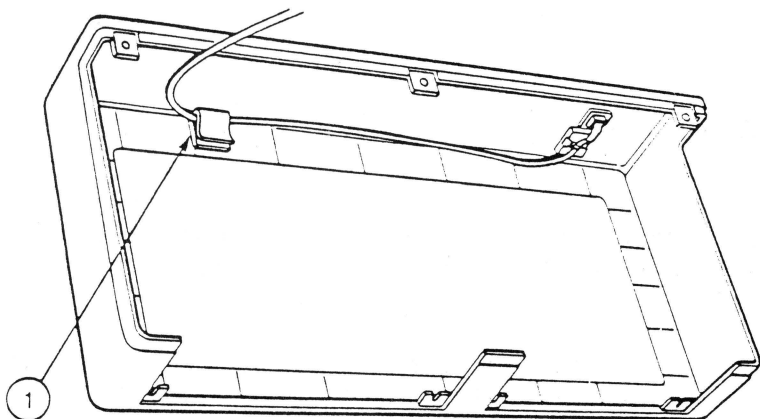
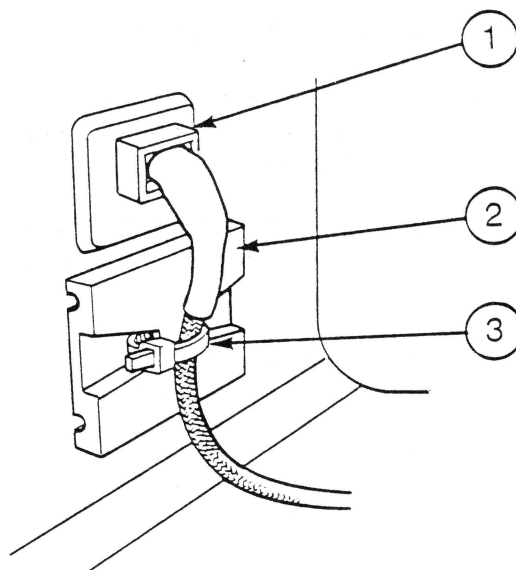

FIGURE 5
FIGURE 6
2. With the customer's cover laying flat, as in Figure 5, cut off the white plastic tie (Figure 6, #3) that holds the LED cable to the white holder in the cover (Figure 6, #2).
3. Remove the other end of the LED cable from the other holder in the cover. (On some ProFiles, this holder will be a clamp like the one shown in Figure 5, #1; on others, it will be like the one shown in Figure 6.)
9. Push the cable clamp (Figure 6, #1) up to the cover until it holds the cable steady.
10. Place the LED cable against the white plastic holder and fasten it with a tie wrap, contained in the spares kit, (Figure 6, #2 and 3). Cut off excess tie wrap.
11. Place the cable in the other holder (Figure 5, #1), using a tie wrap if necessary. Cut off excess tie wrap.